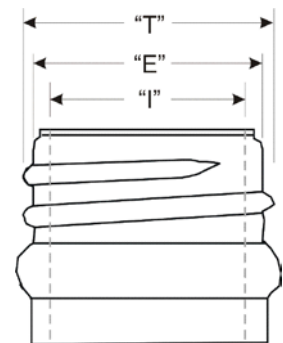

Figure 3: Finish
- For plug inspection image acquisition is performed using on-axis directional diffuse light and a high resolution camera with telecentric optics mounted above the rotating container. The FleX T vision plug inspection is capable of inspection for min and max “I” only (refer to Figure 3). It is not capable of dual-step plug gauging often required for corkage bottles. Dual-step plug gauging can be performed only with the mechanical plug/ring gauging option.
- For ring inspection, image acquisition is performed using diffuse back light (same light source that is used for dip inspection) and a high resolution camera to measure “E” and “T” dimensions (refer to Figure 3) of the container's finish as it rotates in the station.